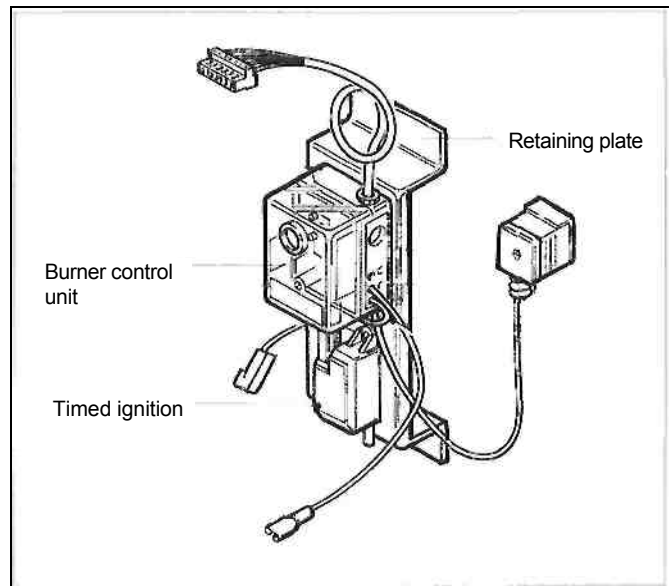

Fig. 9: G124 L, burner control unit and timed ignition
- Remove timed ignition and burner control units from the old retaining plate, unscrew the old retaining plate with plinth from the boiler, screw on the new retaining plate with plinth and fit the timed ignition and burner control unit (Fig. 9).